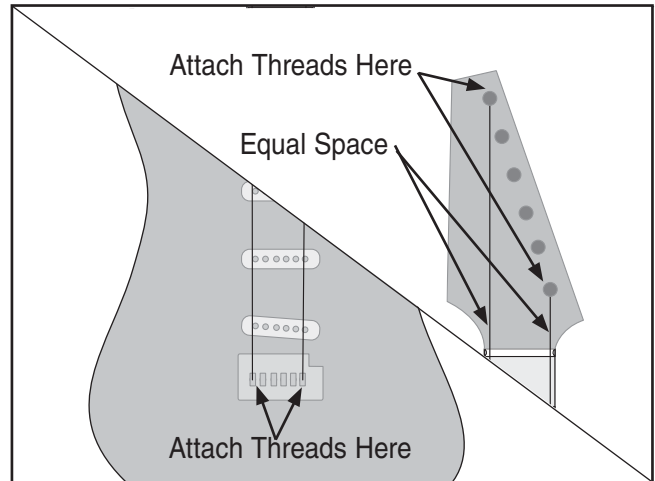

Figure 21. Checking neck alignment with tremolo bridge.
4. Adjust the tremolo bridge so there is an equal amount of space between the fingerboard edges and the threads (see **Figure 21**).